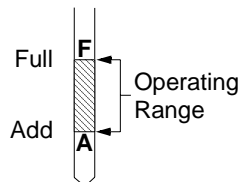
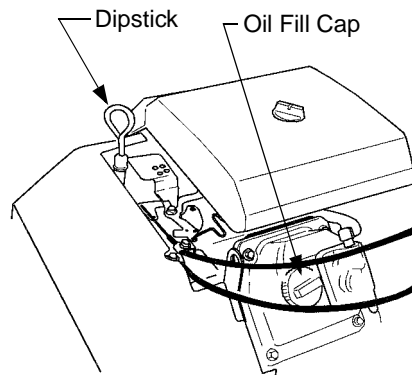
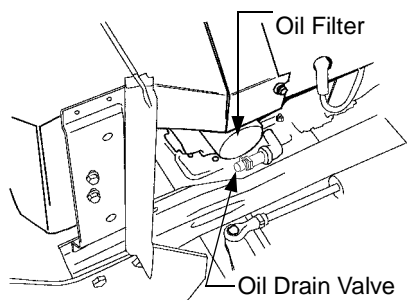

Figure 23
Figure 24
Figure 26
Before checking the oil level, clean the area around the oil level dipstick to prevent debris from entering the crankcase. See Figure 24. Always keep the oil level between the "FULL" and the "ADD" marks on the dipstick. See Figure 23.
- Clean the area around the oil filler cap to prevent debris from entering the crankcase. See Figure 24.
- Remove the oil filler cap from the left valve cover and SLOWLY pour in oil. Fill the crankcase until the oil level reaches the "FULL" mark on the dipstick. See Figure 23.
- Clean around the base of the oil filter, the oil filler cap, and the dipstick tube to prevent debris from entering the crankcase. See Figure 24 and Figure 26.